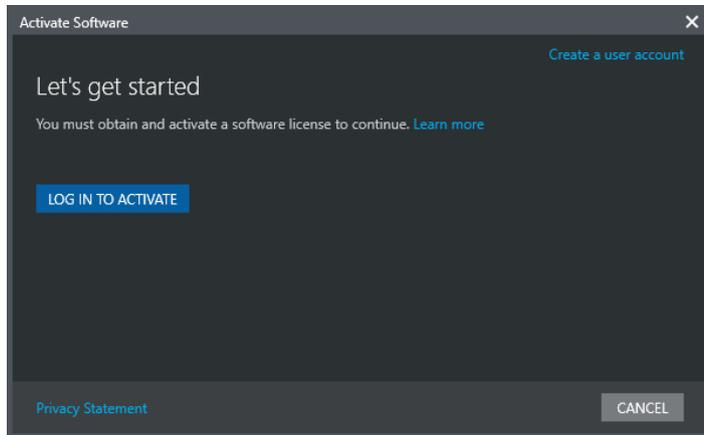
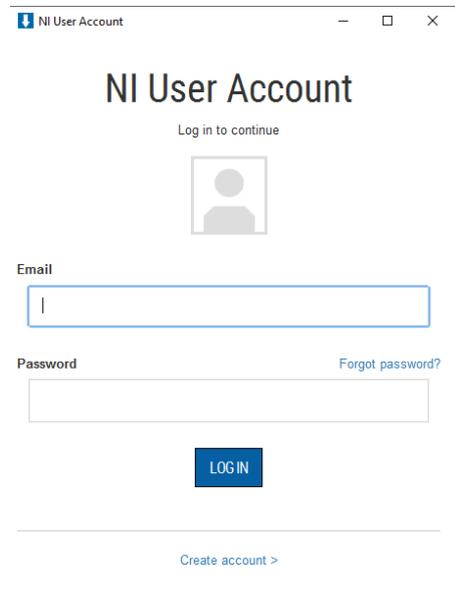

Figure 2-19 Activation window
Figure 2-20 Input user profile
12. Next we will need to “activate” the software (Figure 2-19). In order to use LabVIEW, you will need to login with the user profile you created and perform activation. Click “LOG IN TO ACTIVATE” and a new window will be opened (Figure 2-20). Login with your credentials here.